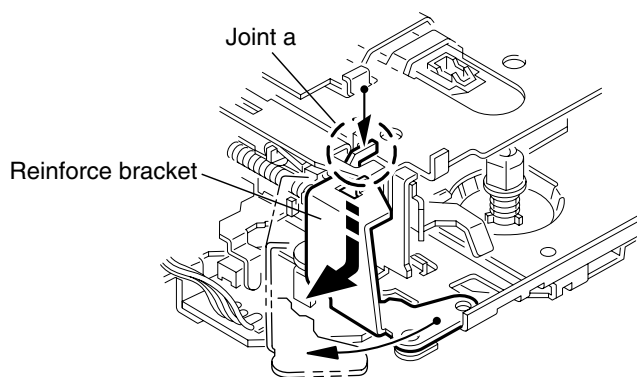

Fig.2
2. To release joint **a**, turn and detach the reinforce bracket from the side bracket assembly as shown in Fig.2